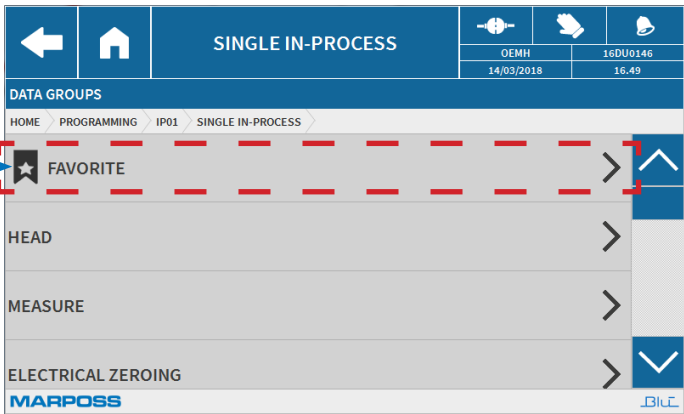

Fig.14. “Favourites” list in a parameter set.
- When the system returns to the previous page, the “Favourites” icon will be appear in the first line (see Fig.14). Select this icon to display the list containing only the data that have been inserted as ‘favourites’.